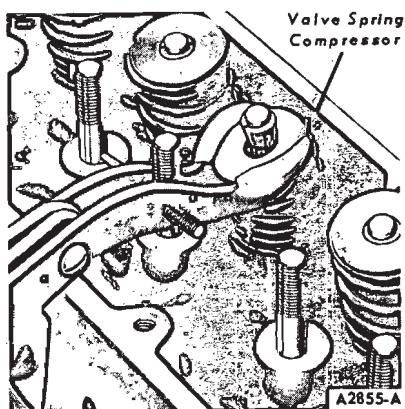

FIG. 12—Compressing Valve Spring on Bench—Typical
6. Compress the valve springs (Fig. 12); then remove the valve spring retainer locks and release the spring.
4. Compress the spring and install the retainer locks (Fig. 12).